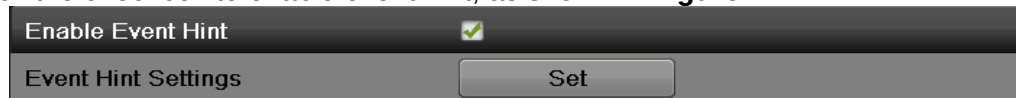

Figure 71 Event Hint Setting Menu
2. Check the checkbox to enable event hint, as shown in **Figure 71**.